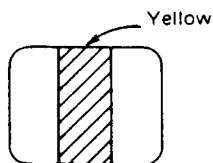

Fig. 9 Screen
- (1) Short-circuit the base and emitter of B-OUT transistor Q653 on PCB-CRT to produce yellow raster.
- (2) With the deflection yoke positioned fully forward, adjust purity magnet so that the yellow bar is at the centre of the screen with normal vertical centering. (Fig. 9)
- (3) Slide the deflection yoke slowly backwards to produce a uniform yellow raster.
- (4) Short-circuit the base and emitter of corresponding two transistors on PCB-CRT as indicated in Table 1 to produce green, red, and blue rasters and to verify their purity, and fasten the screw of the deflection yoke temporarily.
- (5) Remove the shorting leads from respective transistors.